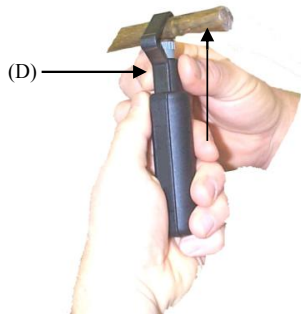

Fig. 5
**Step 5.** (Fig. 5) For **Spiral Cut**, pull up on the collar (D) of the tool to set tool blade at an angle for spiral cut. In this position (Fig. 6), the tool will have a small space (E) exposed between the collar and the body indicating the tool is set for spiral cutting.